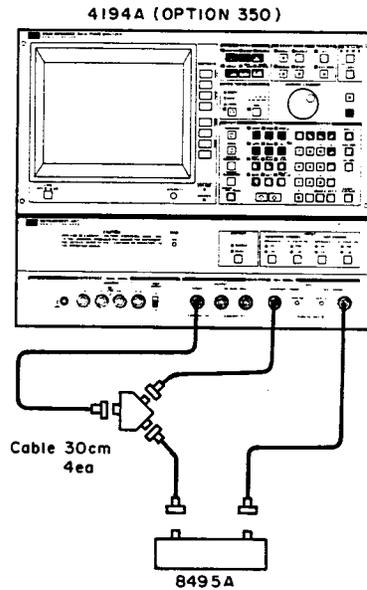

Figure 4-4. Gain-Phase Measurement Accuracy Test Setup: 50 Ω
1. Set up the 4194A as shown in Figure 4-4.